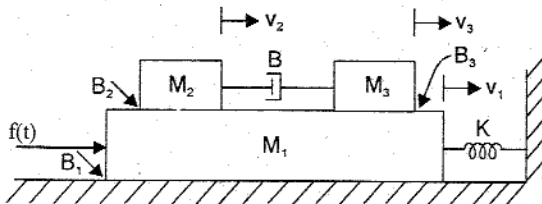

Fig E1.4
- E1.4 Consider the mechanical translational system shown in fig E1.4, Draw (a) force-voltage and (b) force-current analogous circuits.